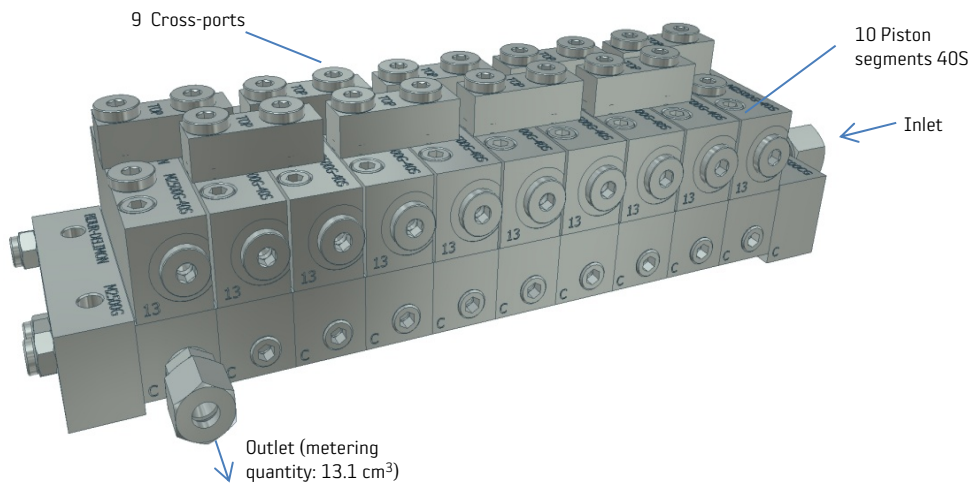

Fig 7
In this connection see also Fig. 7. This shows the arrangement on alternate sides.
- 3.) Selection of piston segments rated for the maximum metering quantity (1.31 cm³ per lubricating cycle). The distributor could then appear as follows (see Fig. 7):